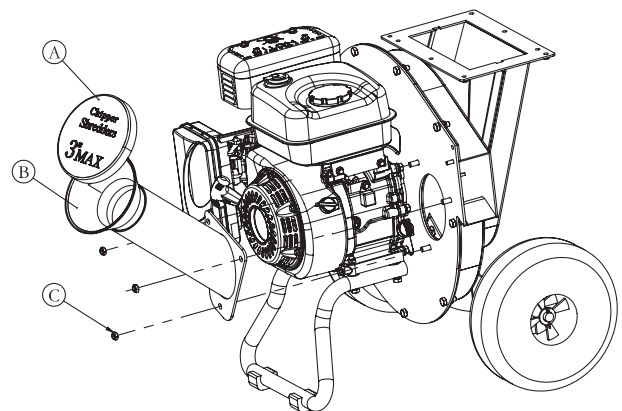

Figure 8
## Inspect Chipping Knives (See Figure 8)
2. Remove the nuts securing the chipper cone to the front of the chipper. Remove the chipper cone to access the knives. SEE FIGURE 8